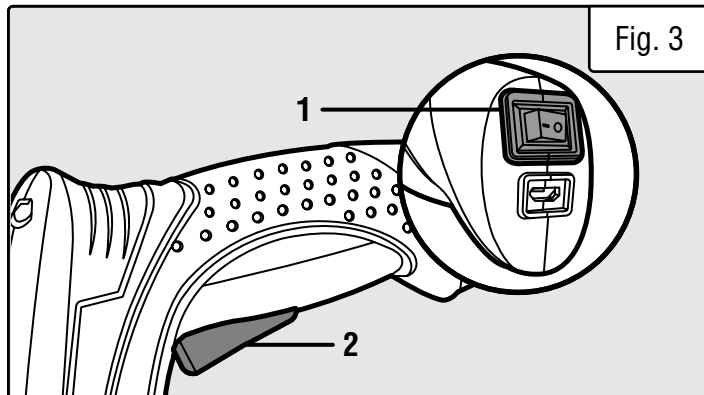

Fig. 3
2. Flip the power switch (Fig. 3 - 1) to the ON position.
4. With the contact safety depressed, pull the power trigger (Fig. 3 - 2) to fire a fastener.